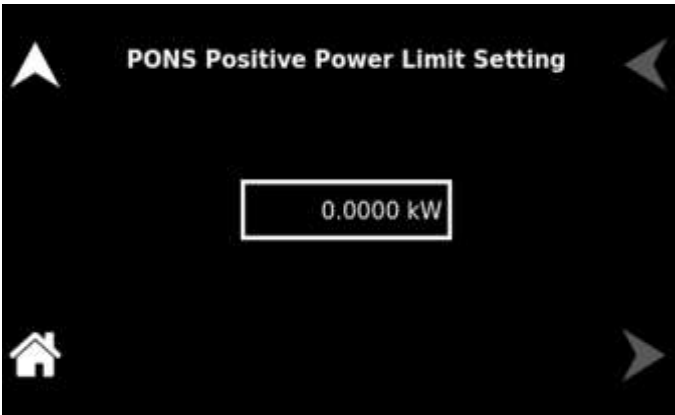

Figure 8-129. PONS Positive Power Limit
**PONS Pos. Power Limit** User can set a positive power limit value, which functions as a trip limit (CC and CC/CV), or it regulates (CC/CP) the output upon reaching the PONS Pos. Power Limit. Refer to Figure 8-129.